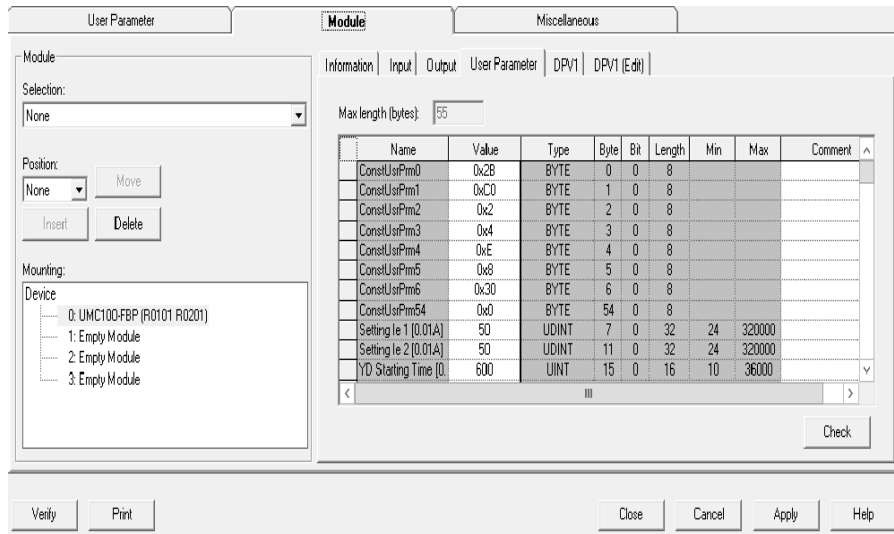

Figure 17. User Parameter at Module Type
4. Select the *User Parameter* tab in this application as shown in Figure 17.